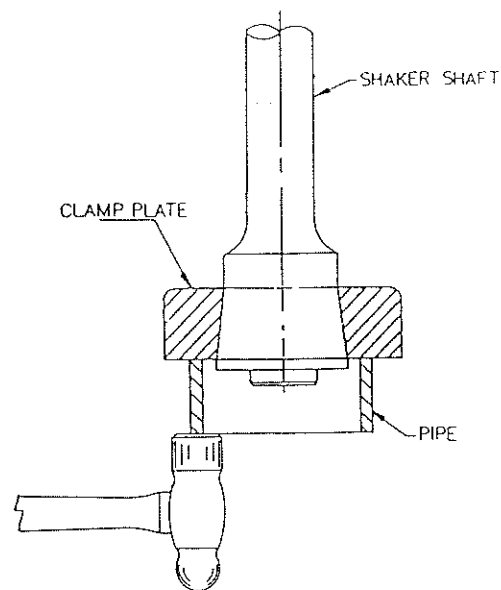

Figure 1
2. Before installing new vibrator shaft, loosen the shaker shaft clamp plates from the shaker shafts. Do this by using a suitable spacer, pipe, etc., that will fit over the end of the shaker shaft and tap with hammer. Loosening the clamp plates will prevent misalignment and binding upon reassembly. (See Figure 1.)